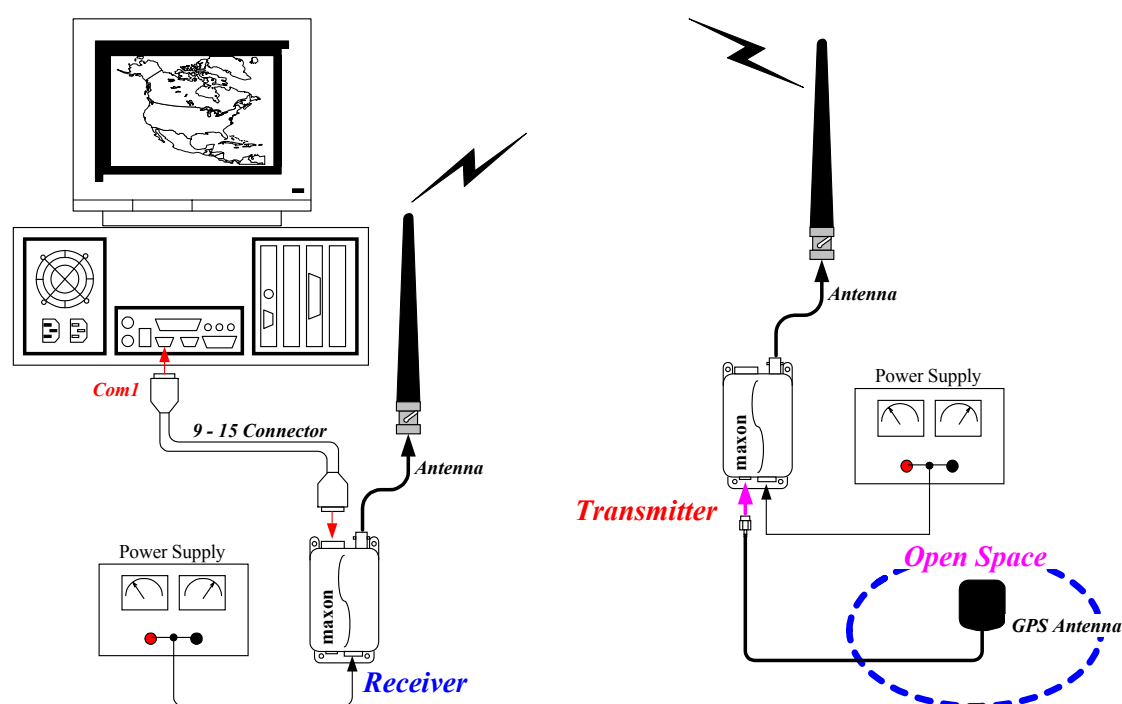

Figure 5.9. Constitution of hardware for Automatic GPS data transmission mode
1. Setup hardware like Fig 5.9.
2. Execute “SD-160 GPS test” program on the DTE (PC) which is connected with receiver through communication port 1 (COM1).